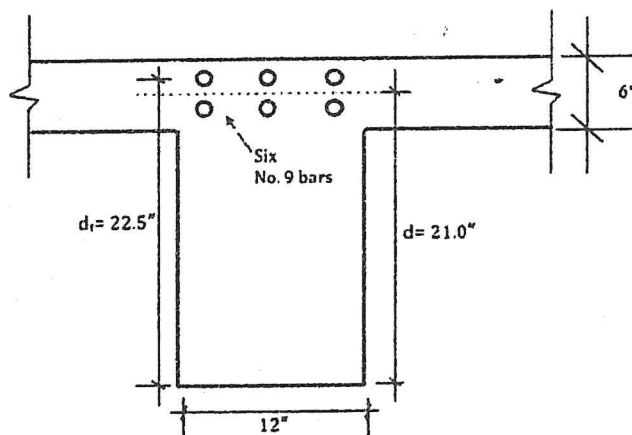

Fig. 3
- (b) There are Six No. 9 bars in two rows at the top of the support, as shown in the beam section in Fig. 3. What is the nominal and design negative moment capacity of the beam at the support? Check ϵ_t and minimum reinforcement.